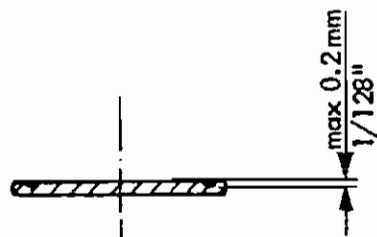

Fig. 11.8 Permissible tolerances, valve plates
- Clean and inspect the valve plate (7). The maximum acceptable groove depth must not exceed 1/128" (0.2 mm). See fig. 11.8.
- Clean and inspect the valve plate (7). The maximum acceptable groove depth must not exceed $1/128''$ (0.2 mm). See fig. 11.8.
- Clean and inspect the valve plate (6). The maximum acceptable groove depth must not exceed $1/128''$ (0.2 mm). See fig. 11.8.
- Clean and inspect the valve plate (10). The maximum acceptable groove depth must not exceed 1/128" (0.2 mm). See fig. 11.8.